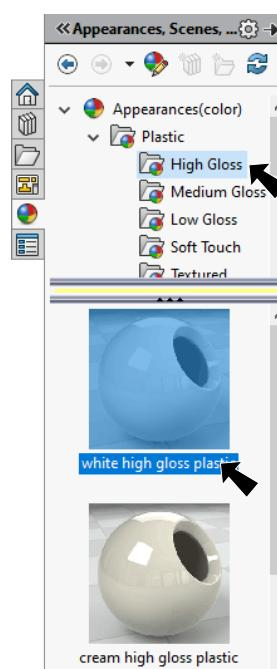

Fig. 23
Step 2. In the Appearances Task pane, expand **Plastic**, click **High Gloss** and in the lower pane select **white high gloss plastic**, Fig. 23.